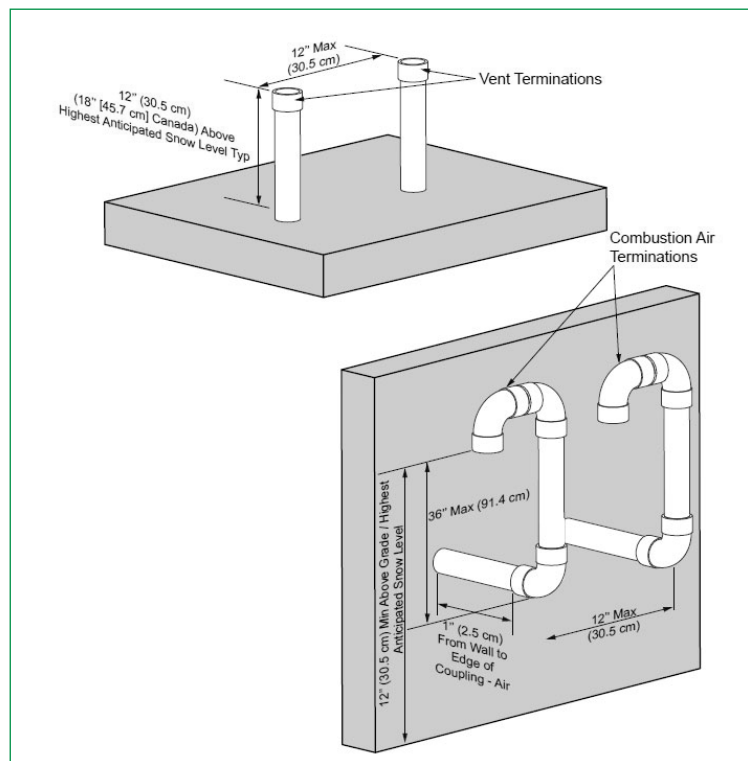

Fig. 13 - Direct Vent - Vertical Vent and Sidewall Combustion Air Terminations of Multiple Prestige Boilers
2. Each vent and combustion air termination must be a minimum 12 in. [30.5 cm] from the adjacent termination for installations in the U.S. as shown in *Fig. 13*. For installations in Canada, provide clearances as required by CAN/CSA B149.1.